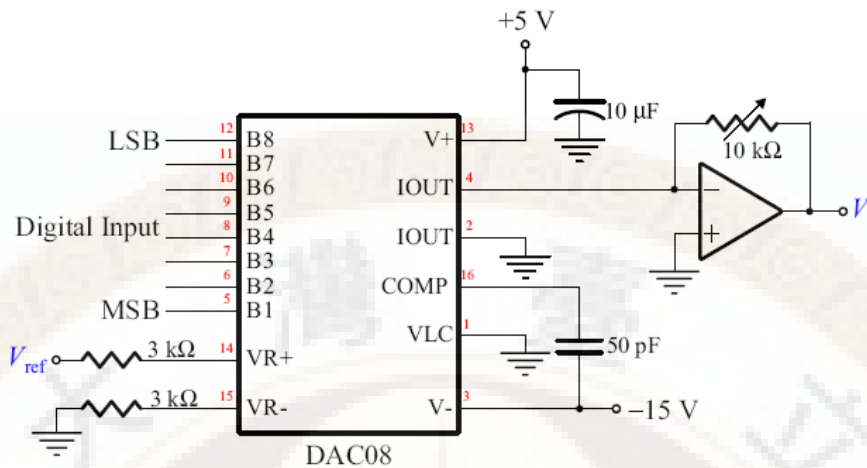

Fig. 2 DAC0800 Testing circuit
- (1) In Fig. 2, supply  $V_{DD} = +5V$ ,  $V_{ref} = +5V$  for DAC circuit and  $V_+ = +15V$ ,  $V_- = -15V$  for  $\mu A741$  OP Amp.
- (2) Input 1111-1111 to the digital input terminals.